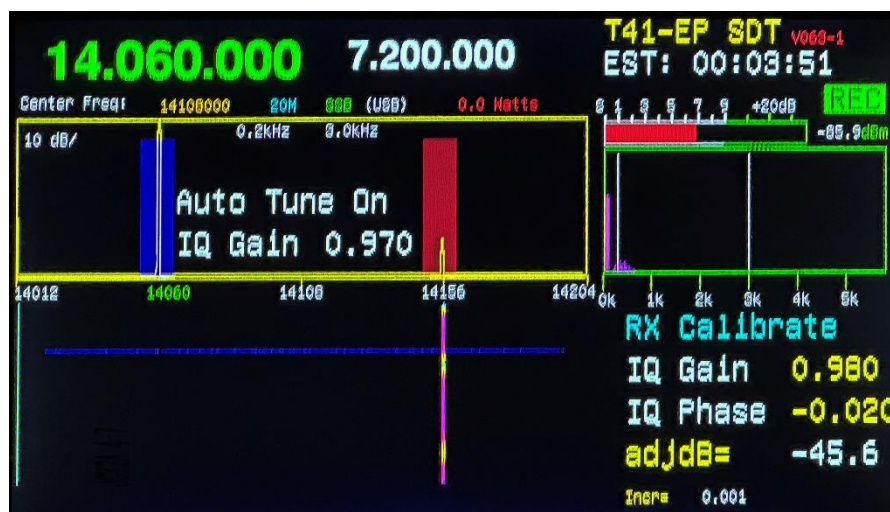

Figure 7 Auto Cal in Process
- Press the Decode Button to calculate the parameters. Figure 7 shows the Auto Cal in progress.